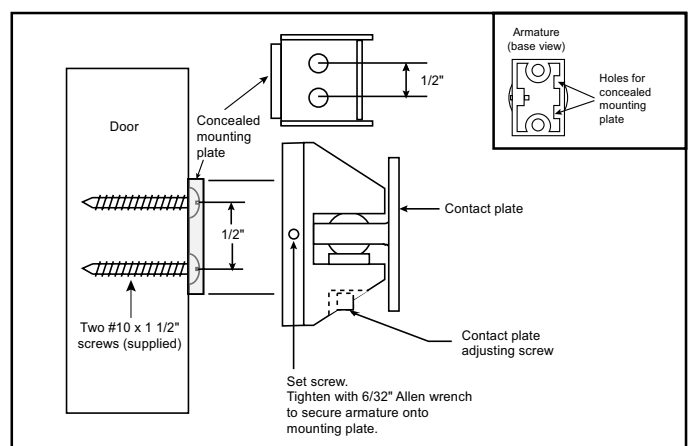

Figure 6. Surface Concealed Mounting (Cat. Series 1504 shown)
- Surface concealed mounting (Figure 6).** Measure two points for 1/8" holes drilled 1/2" on center equidistant from each marked point. Center punch the holes and drill 1/8" diameter x 1 1/4" deep. Install the concealed mounting plate using the two #10 x 1 1/2" screws provided.